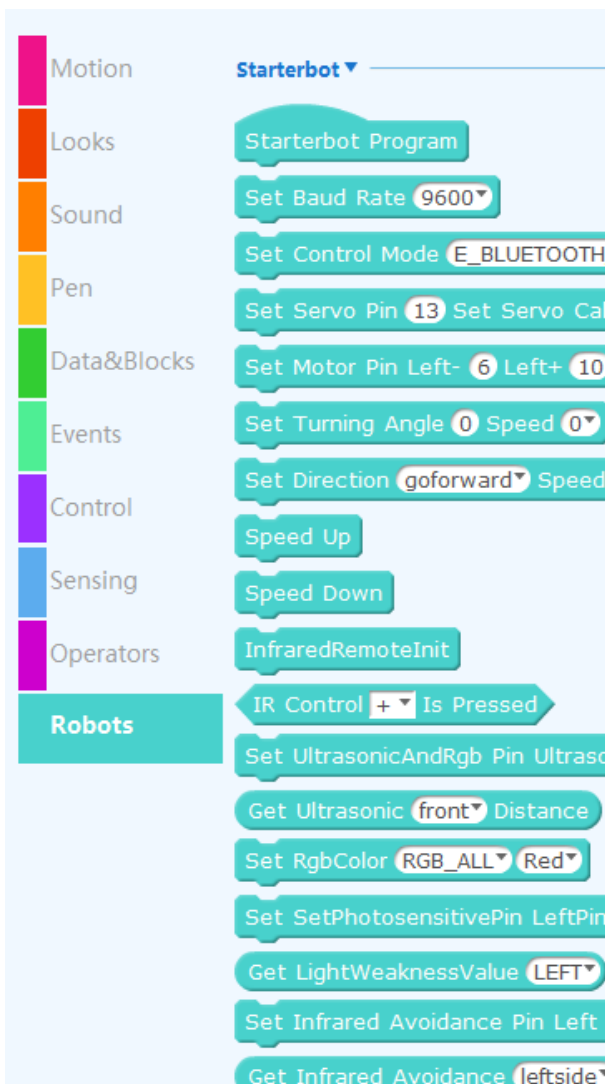
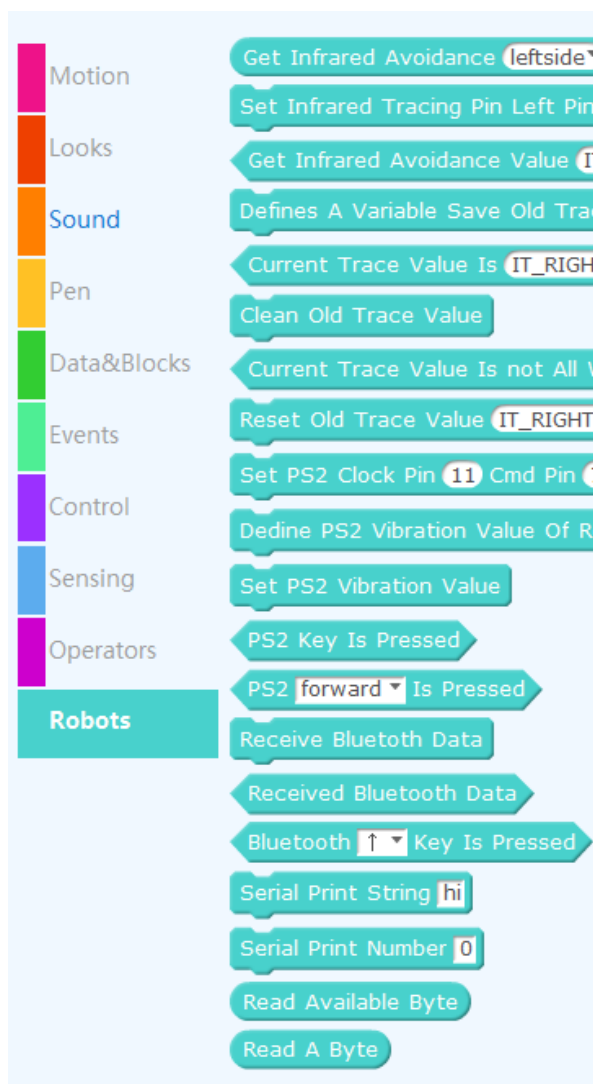

Figure 1-6-3
Figure 1-6-4
- 3) The main function of the robot module is to control the robot to perform corresponding actions, such as forward, backward, steering and so on, as shown in Fig. 1-6-3 and Fig. 1-6-4.